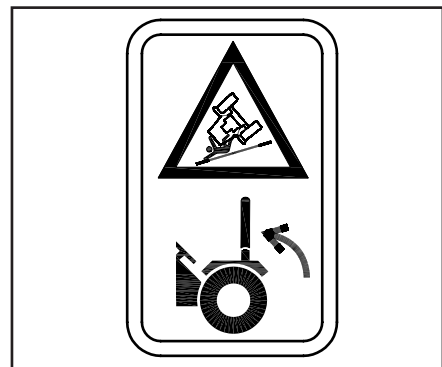

Fig. 2.26.4
**29.5 580A1605 (Fig.2.26.4)****Danger of overturning**